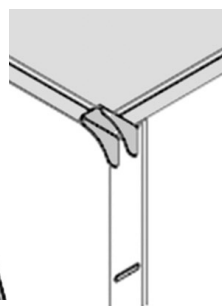

Figure 7
13. Place the shelf (#16) onto the supports (Fig. 7). You may need to angle a shelf to have it pass through the front opening. Push down on each shelf corner to